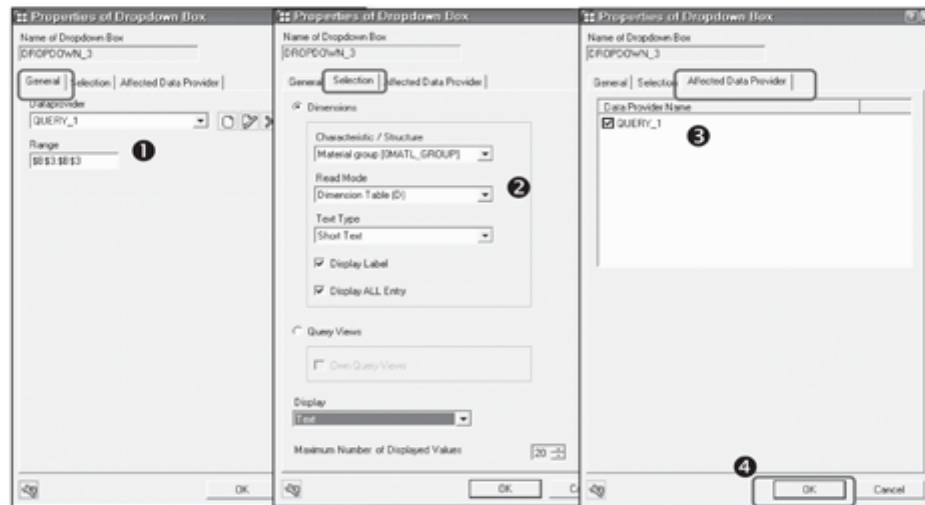

Figure 10.33 Set Properties for the Dropdown Box
7. Open the Properties of Dropdown Box dialog by double-clicking on the item. The Properties of a Dropdown Box dialog contains three tabs. On the General tab page (❶ of Figure 10.33), you assign the data provider to the dropdown and select the location of the dropdown in the workbook. On the Selection tab page (❷),
If multiple query views are defined on a selected data provider, you can provide a dropdown box in the workbook that will give you a list of views created on that query. The user can then select a specific query view from this dropdown, and the affected data provider gets refreshed accordingly. To achieve this, you have to select the Query Views option on the Selection tab of the Properties of Dropdown Box page (2 of Figure 10.33).